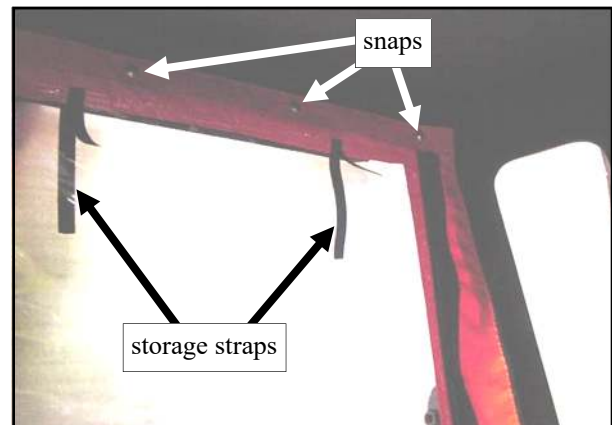

Fig. 2.1 (view from right side of tractor)
2.1 Per fig. 2.1, engage the snaps on the rear curtain to the factory installed snaps on the rear cross brace.